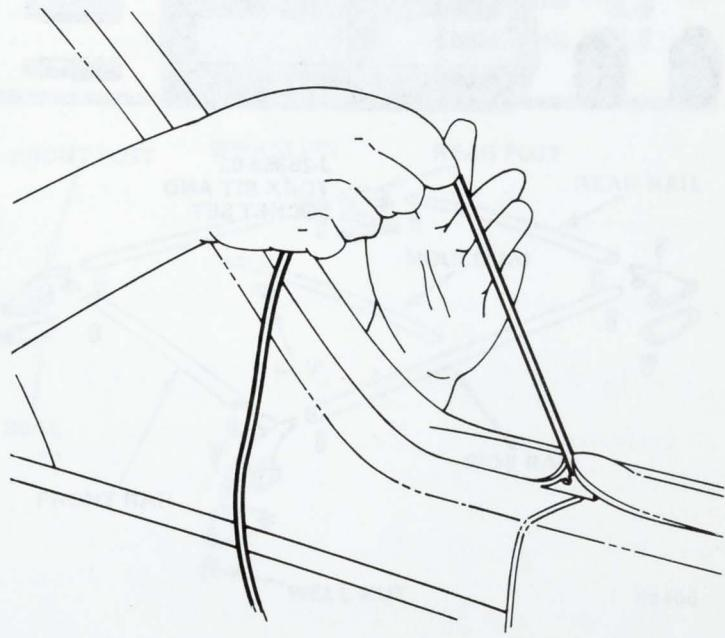

Fig. 3K-18 Rear Quarter Glass Installation
(2) Insert a cord in lip groove of rubber channel around glass and overlap cord ends at bottom of the glass.
(3) Apply approximately 1/2-inch bead of 3M Auto Bedding and Glazing Compound, or equivalent, to window opening ledge—not on flange.
(4) Set upper end of glass against upper flange and set bottom end in.
(5) Pull cord up to lift lip of rubber channel over flange completely around glass (fig. 3K-18).